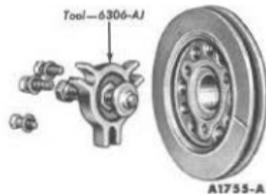

FIG. 4—Vibration Damper Removal
1. To remove the crankshaft vibration damper, use Tool 6306-AJ shown in Figure 4.
2. When repair procedures require the removal and installation of the crankshaft vibration damper, use Tool 6306-AJ shown in Figures 4 and 5.